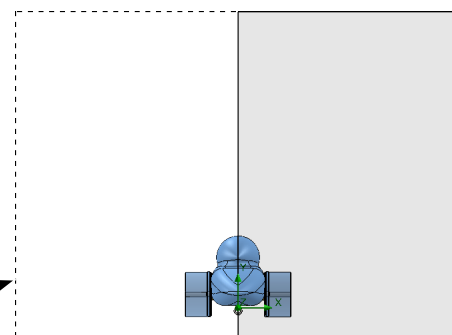

Fig. 13
Step 5. Click **Front** on the Views toolbar (Ctrl-1). Use Z key to zoom out to see domain, Fig. 13.
Step 6. **Only half the car** should be inside the domain as shown in Fig. 13. This will reduce the solver time. Solver can take several minutes.